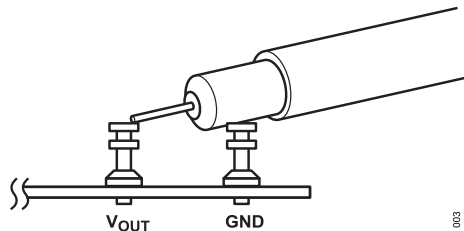

Figure 3. Scope Probe Placement for Measuring Output Ripple Voltage
6. Once the input and output voltages are properly established, adjust the input voltage between 6V to 14V max and the load current within the operating range of 0A to 31.25A max per channel. Observe the output voltage regulation, output voltage ripples, switching node waveform, load transient response, and other parameters. See Figure 3 for proper output voltage ripples measurement.
To measure the input/output voltage ripples properly, do not use the long ground lead on the oscilloscope probe. See Figure 3 for the proper scope probe technique. Short, stiff leads need to be soldered to the (+) and (–) terminals of an input or output capacitor. The probe's ground ring needs to touch the (–) lead, and the probe tip needs to touch the (+) lead.